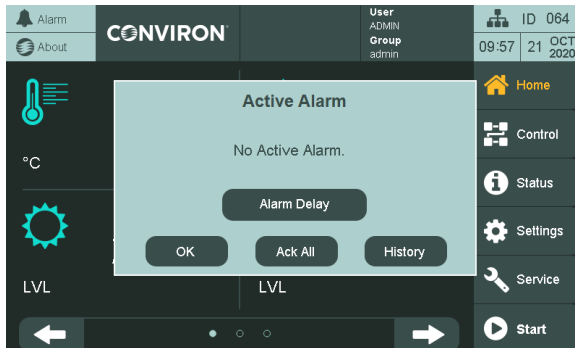
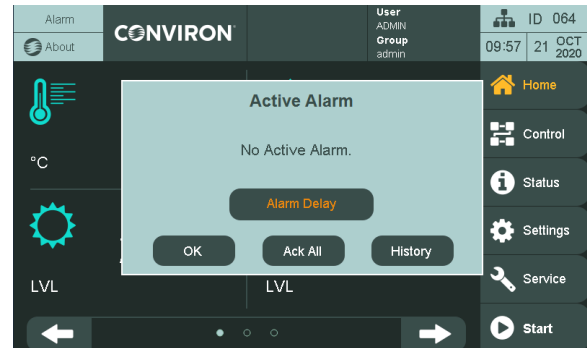

Figure 6-6 Active Alarm
Figure 6-7 Alarm Delay
1. Press the **Alarm** icon  on the top left corner of the HMI, the **Active Alarm** pop-up appears (Figure 6-6). Press the **Alarm Delay** icon to activate the alarm delay (Figure 6-7).